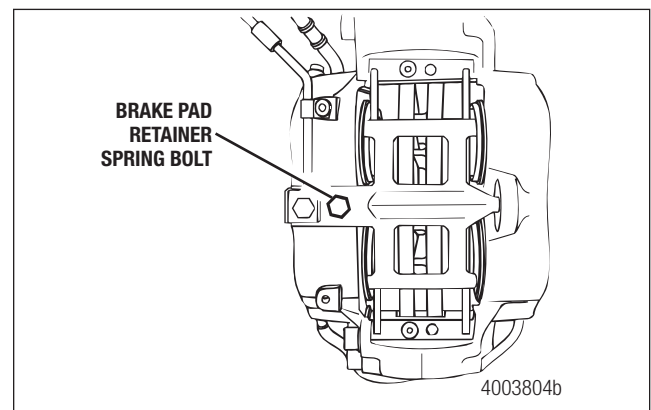

Figure 4.5
12. Install the brake pads with the friction material surface toward the rotor face. The brake pads should drop into the caliper and move freely. Investigate any condition were the pads do not move freely. Failure to determine and correct the root cause can result in accelerated and/or uneven lining wear. Install the pad retainer spring and tighten the bolt. Refer to Section 8. Figure 4.5.